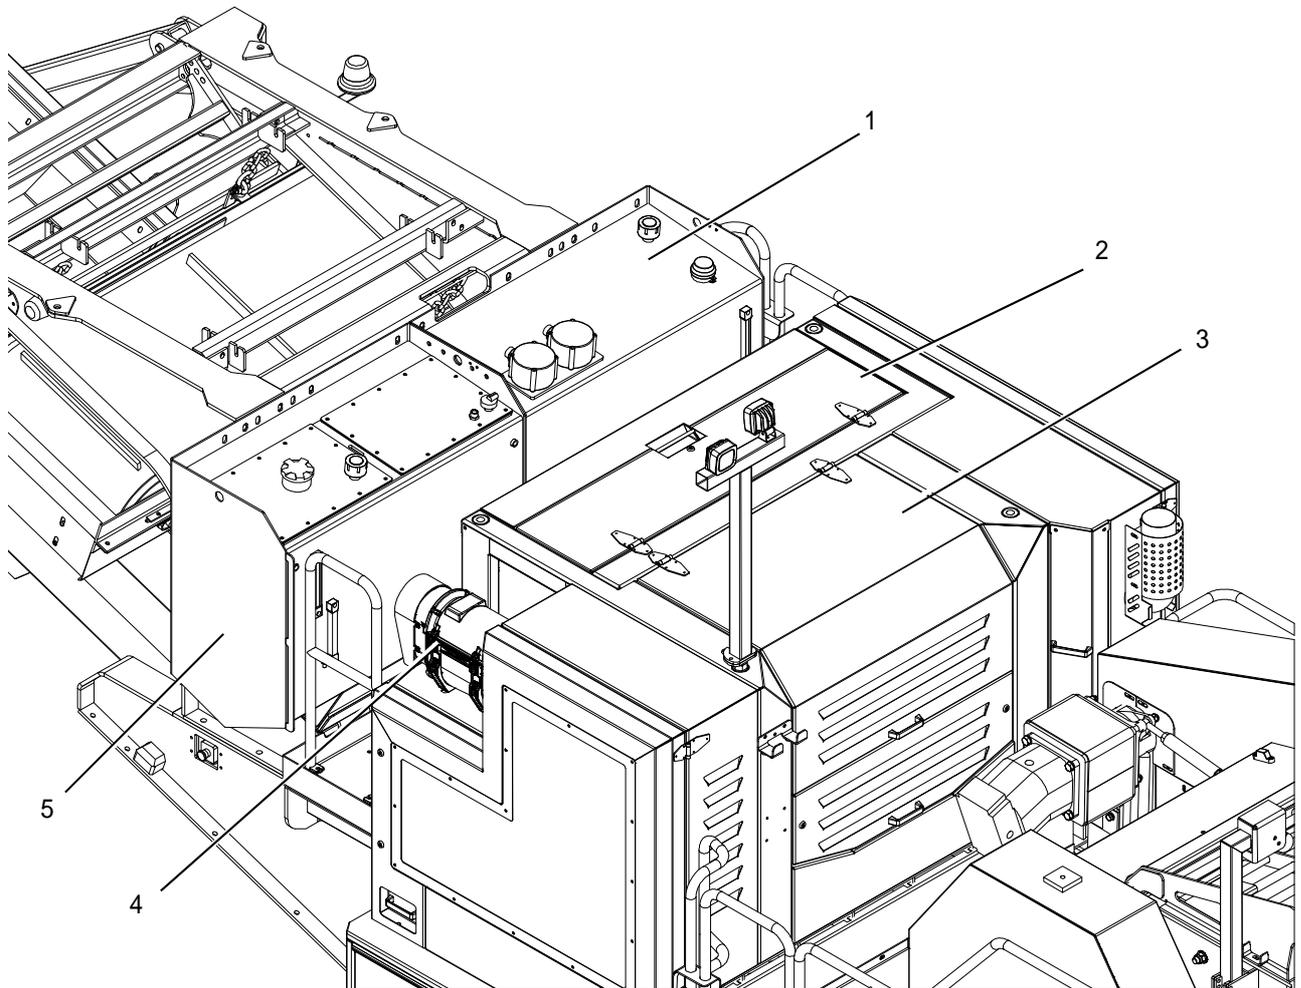

Figure 6-1: Engine/hydraulic compartment locations
The engine and hydraulic compartment locations are shown at *Figure 6-1*: to aid maintenance procedures.
Key to *Figure 6-1*:
1. Open the engine compartment cover. For location refer to **Figure 6-1: Engine/hydraulic compartment locations, page 139** (item 3).
2. At the engine compartment, check the engine oil level through the dipstick (2).
3. If necessary, refill the oil. Clean the area around the filler cap (2) before opening to prevent contamination.
1. Open the radiator compartment cover. For location refer to **Figure 6-1: Engine/hydraulic compartment locations, page 139** (item 2).
2. Check radiator water level & refill if necessary (1).
1. Locate the air cleaner, refer to *Figure 6-1*: (item 4).